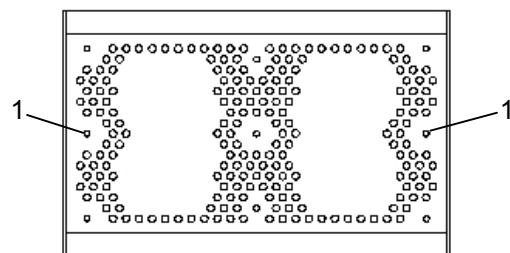

Fig. 5 Installation of the top-hat rail brackets
- Screw the top-hat rail brackets to the lower side of the CMC-TC Master II (see Figure 5).